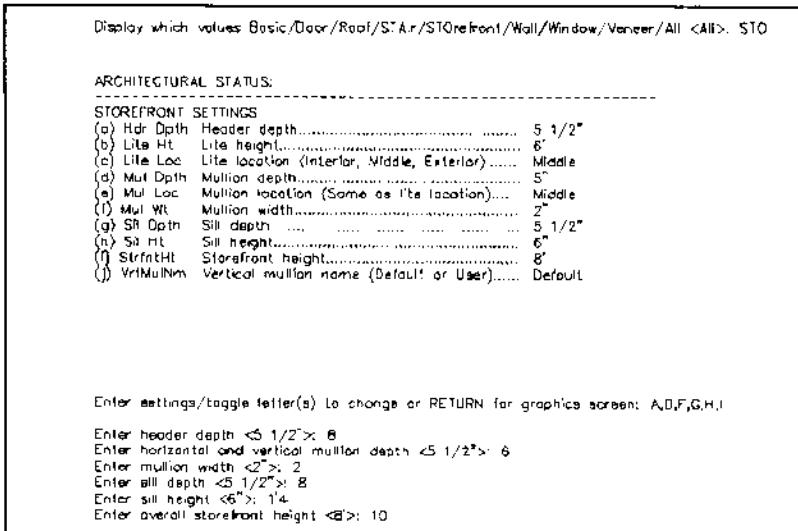
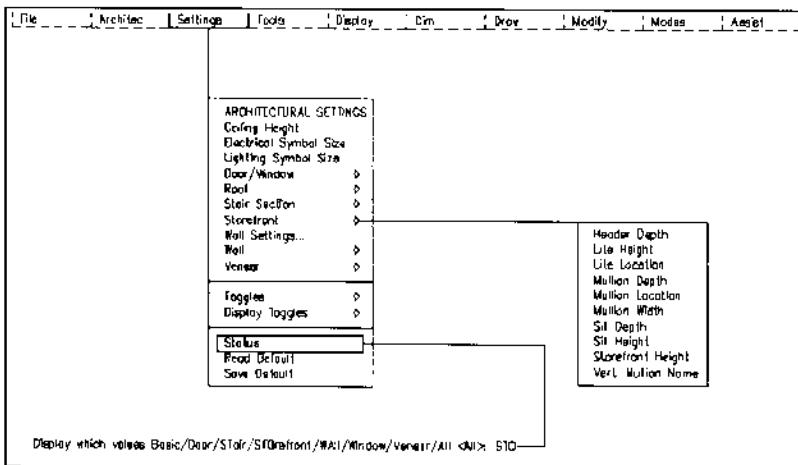

Figure 26.
Figure 27.
3. Select the Storefront option of the Display Status command shown in Figure 26 or open the Storefront submenu as shown in Figure 27 to customize the settings.